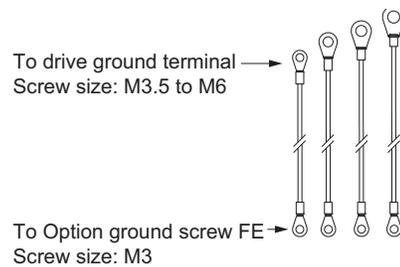
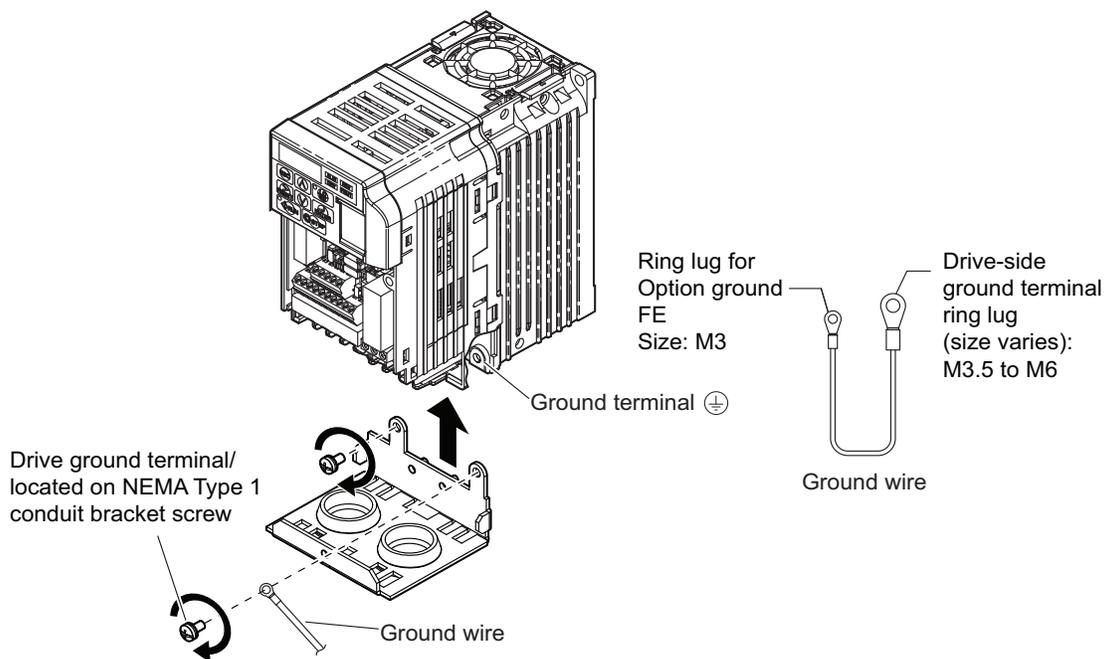

Figure 15 Ground Wire Selection
Figure 16 Reattach the NEMA Type 1 Conduit Bracket and Connect the Ground Wire
9. Select one of the four different length ground wires packaged with the option, Figure 15. Choose the proper ground wire by first removing the ground terminal screw from the drive Figure 16. Test fit the screw (size M3.5 to M6) into each of the four ground drive-side ring lugs prior to installation. Ground wire selection varies by drive model.
10. On IP20/NEMA Type 1 enclosure drives, the screw for the drive ground terminal also acts as one of the screws that attaches the NEMA Type 1 conduit bracket to the drive. Reattach the NEMA Type 1 conduit bracket according to Figure 16 and connect the drive-side of the ground wire to the drive ground terminal.